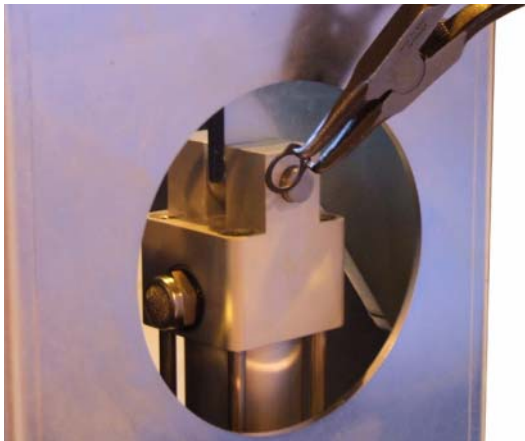

Figure 41: Remove the retaining ring from the pump's shaft.
6. Remove the retaining ring from the shaft in the upper part of the pump, figure 41.